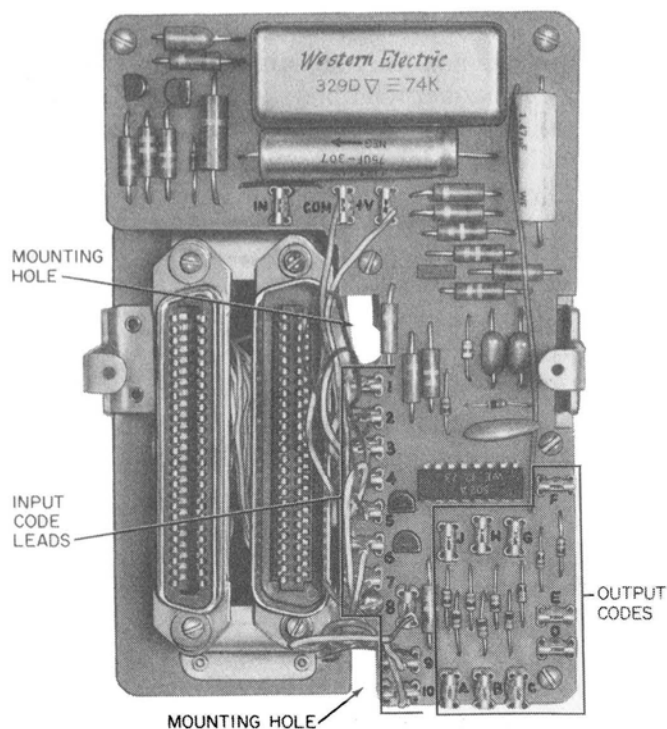

Fig. 19—26A Apparatus Unit Base
(b) Connect the 26A apparatus unit (Fig. 19) as follows:
- Remove the lead corresponding to the input code from the numbered terminal (Fig. 19)
- Remove the leads corresponding to the output codes and insert each lead in a separate terminal lettered A through J (Fig. 19 and 31).